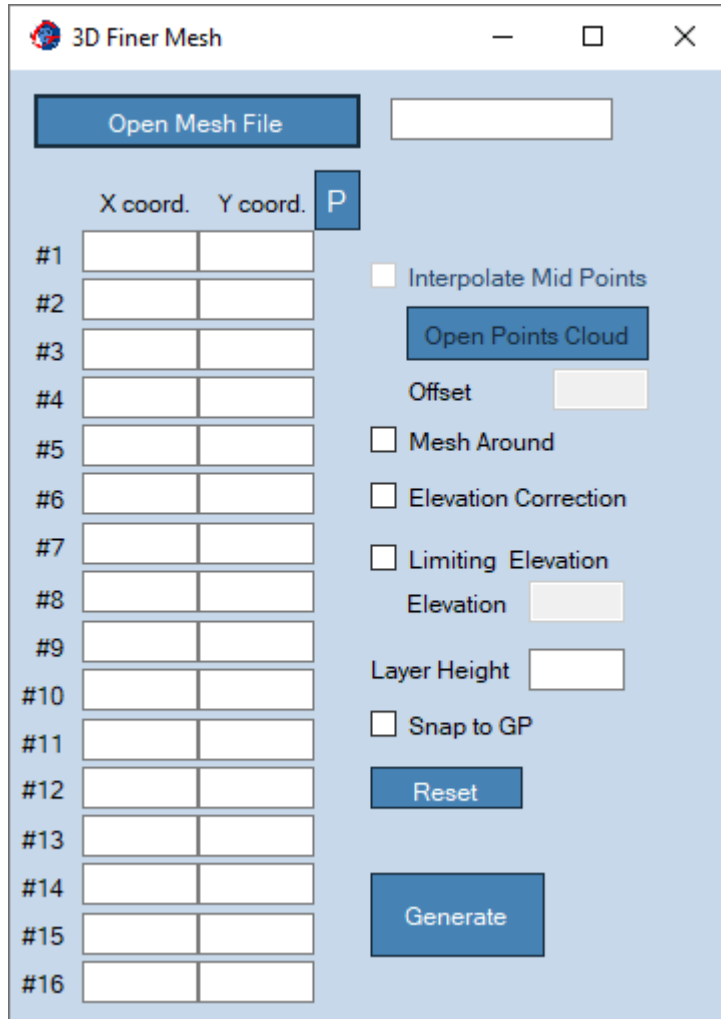

Figure 31: 3D Surfaces Menu – Finer Mesh.
- **Snap to GP**: This option is useful when coordinates (X,Y) are selected using the mouse. Given the unlikeliness of exactly clicking over a gridpoint (GP) coordinate, activating this option will internally correct the coordinate of the selected point to the closest GP coordinates. This option helps to create straight edges of the landform perimeter, aligned with the mesh grid.
- **Meshing Menu, Finer Mesh:** This menu option (shown in Figure 31) allows for a mesh refinement with smaller elements, either over the entire model domain or over a portion of it. The new smaller elements have a quarter size of the source elements. This option does not require the execution of *3D Meshing* after generation.